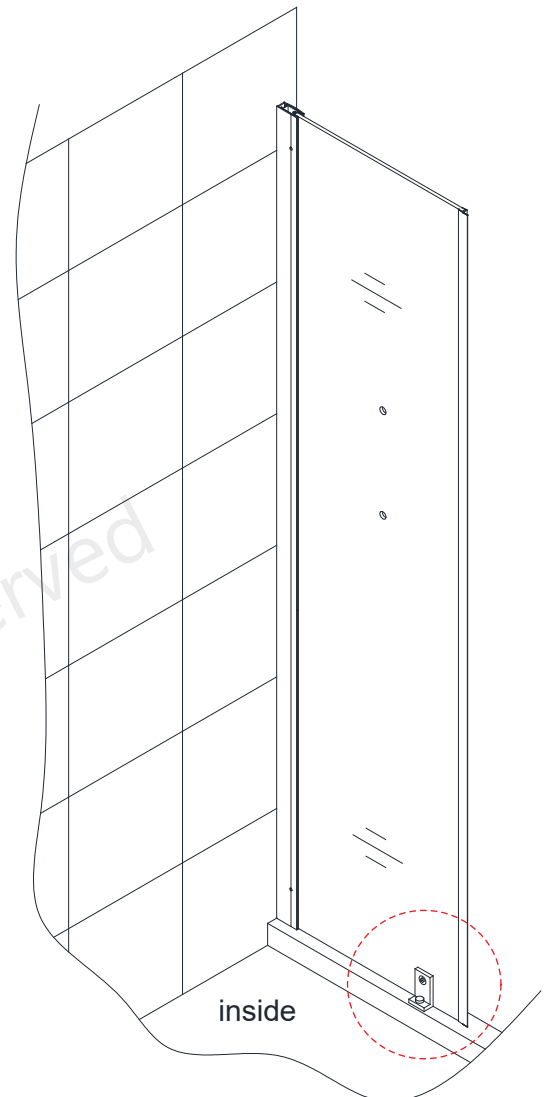

Fig 7b
** Use an **Ø1/8"** drill bit for installation into an acrylic base OR use a **Ø5/16"** drill bit and an anchor for installation into a tile threshold. Use the **Pan Head Screw ST4.2x35 (#16)** along with a raised white washer to attach the **Bottom Bracket (#18)** to the threshold and snap on the **Decorative Screw Cover (#17)**. (Fig 7a and Fig 7b)**